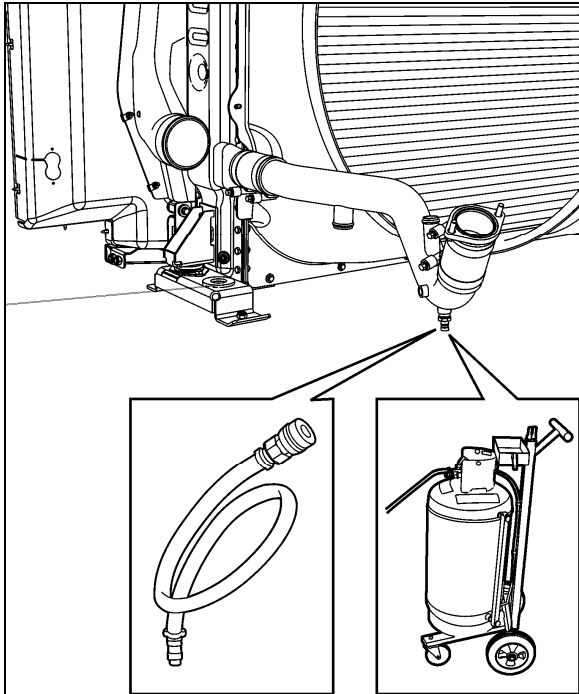

FIGURE 7: EXTRACTING COOLANT
5. Connect coolant extractor (Fig. 7). Use coolant extractor to drain the coolant from the engine. An alternate method is to drain the coolant into a suitable container using the drain hose.
4. Connect coolant extractor (Fig. 7). Use coolant extractor to drain the coolant from the engine. An alternate method is to drain the coolant into a suitable container using the drain hose.